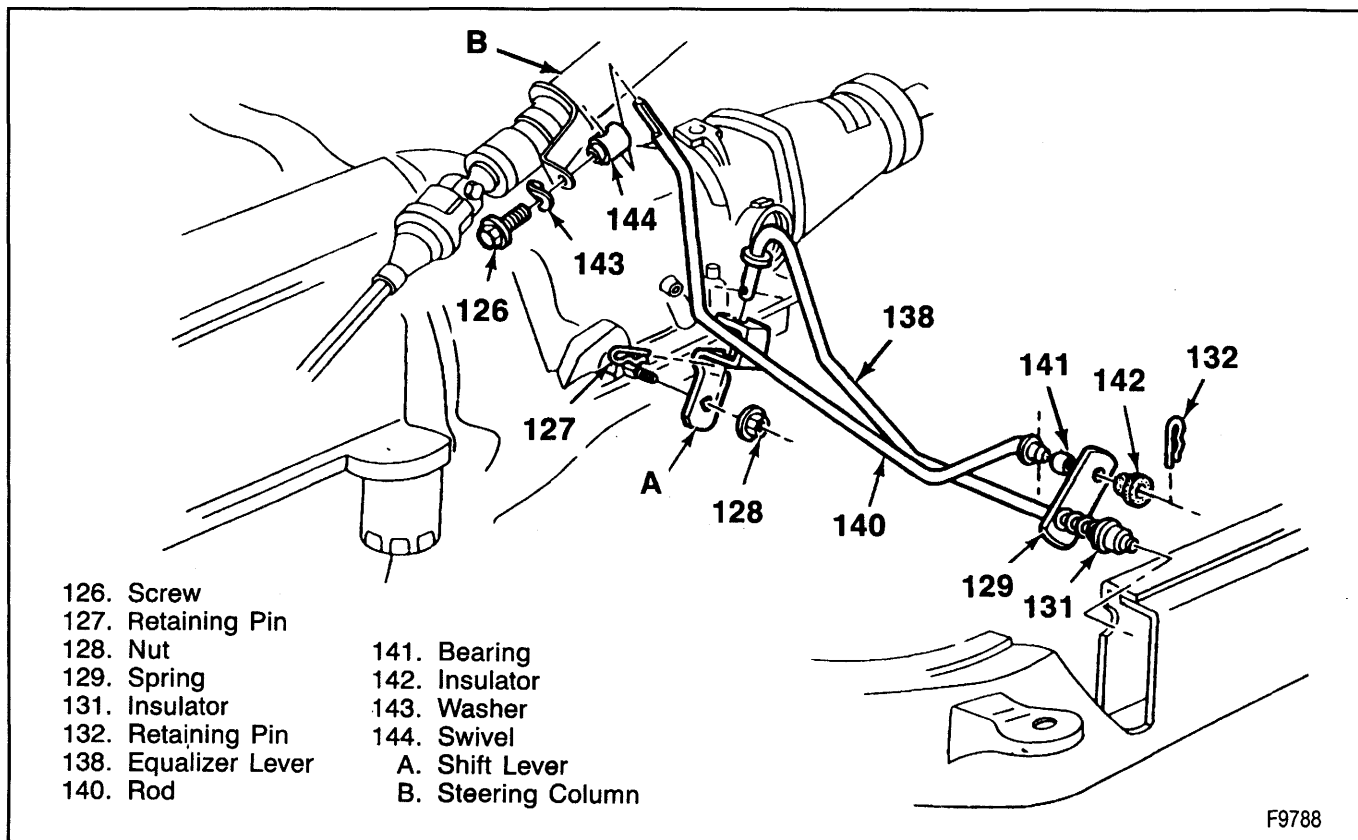
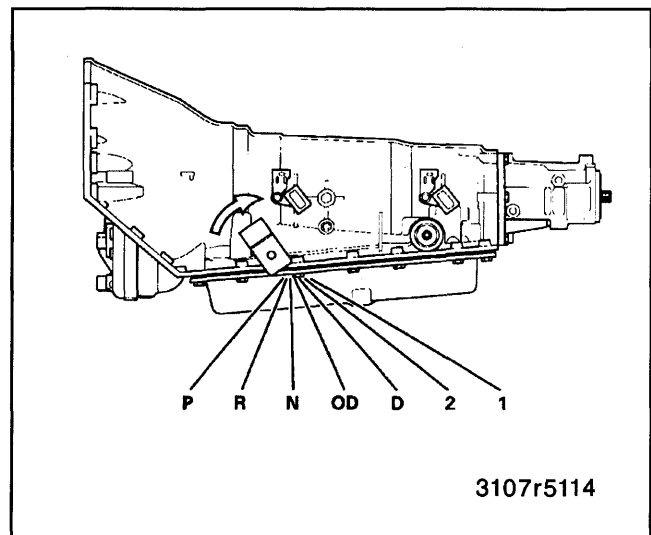

Figure 1—Shift Linkage
Figure 2—Shift Positions
Remove or Disconnect (Figure 1)
Install or Connect (Figure 1)
Remove or Disconnect (Figure 2)
- Move the shift lever (A) (figure 1) to the forward position, then back to the second detent (figure 2).